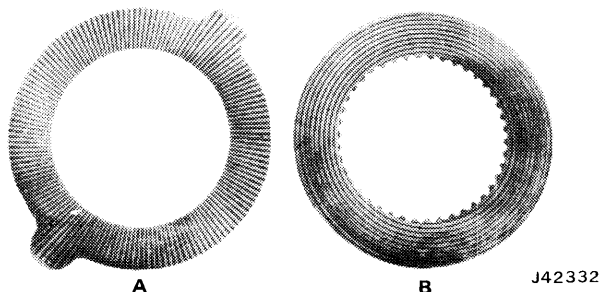

Fig. 10-67 Plate and Disc Identification
Examples of radial groove clutch plate (A) and the concentric groove disc (B) are shown in figure 10-67.